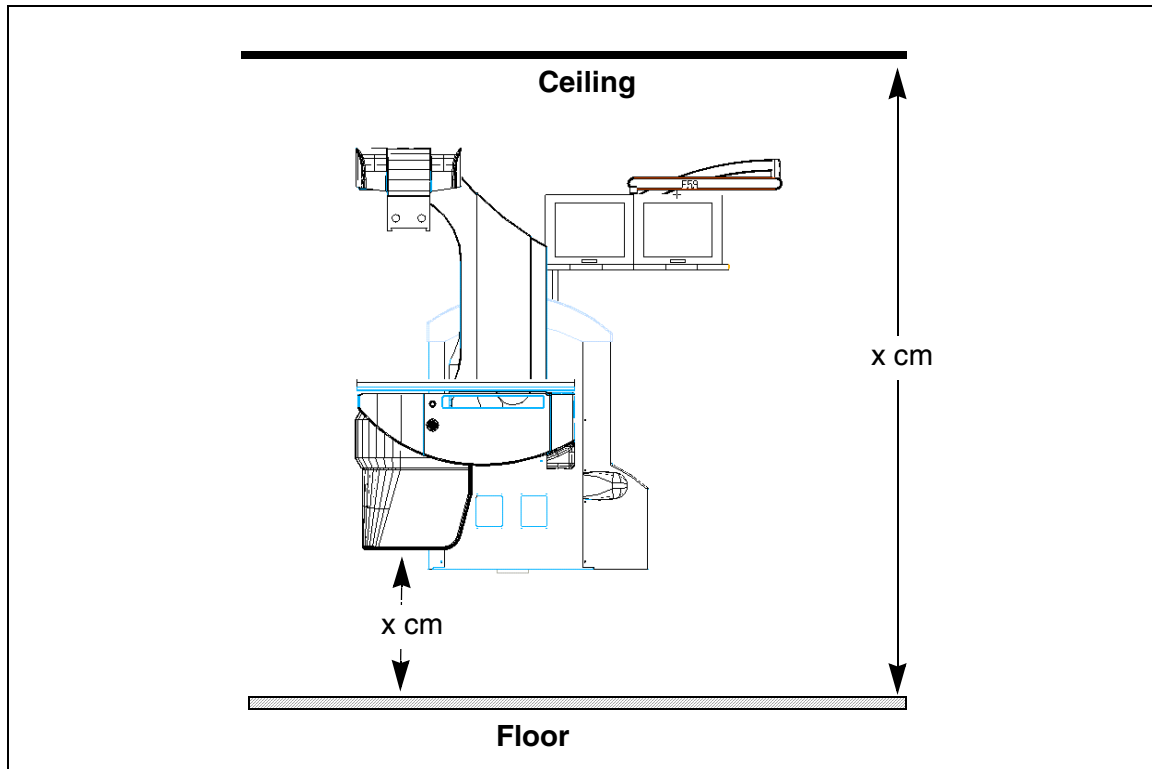

Fig. 5 Room dimensions
- Measure the distance from the floor to the ceiling (Fig. 5).
- Measure the minimum distance from the floor to the image intensifier (without I.I. collision protection) (Fig. 5).
- Measure the distance from the lowest point of the I.I. to the floor (Fig. 5).